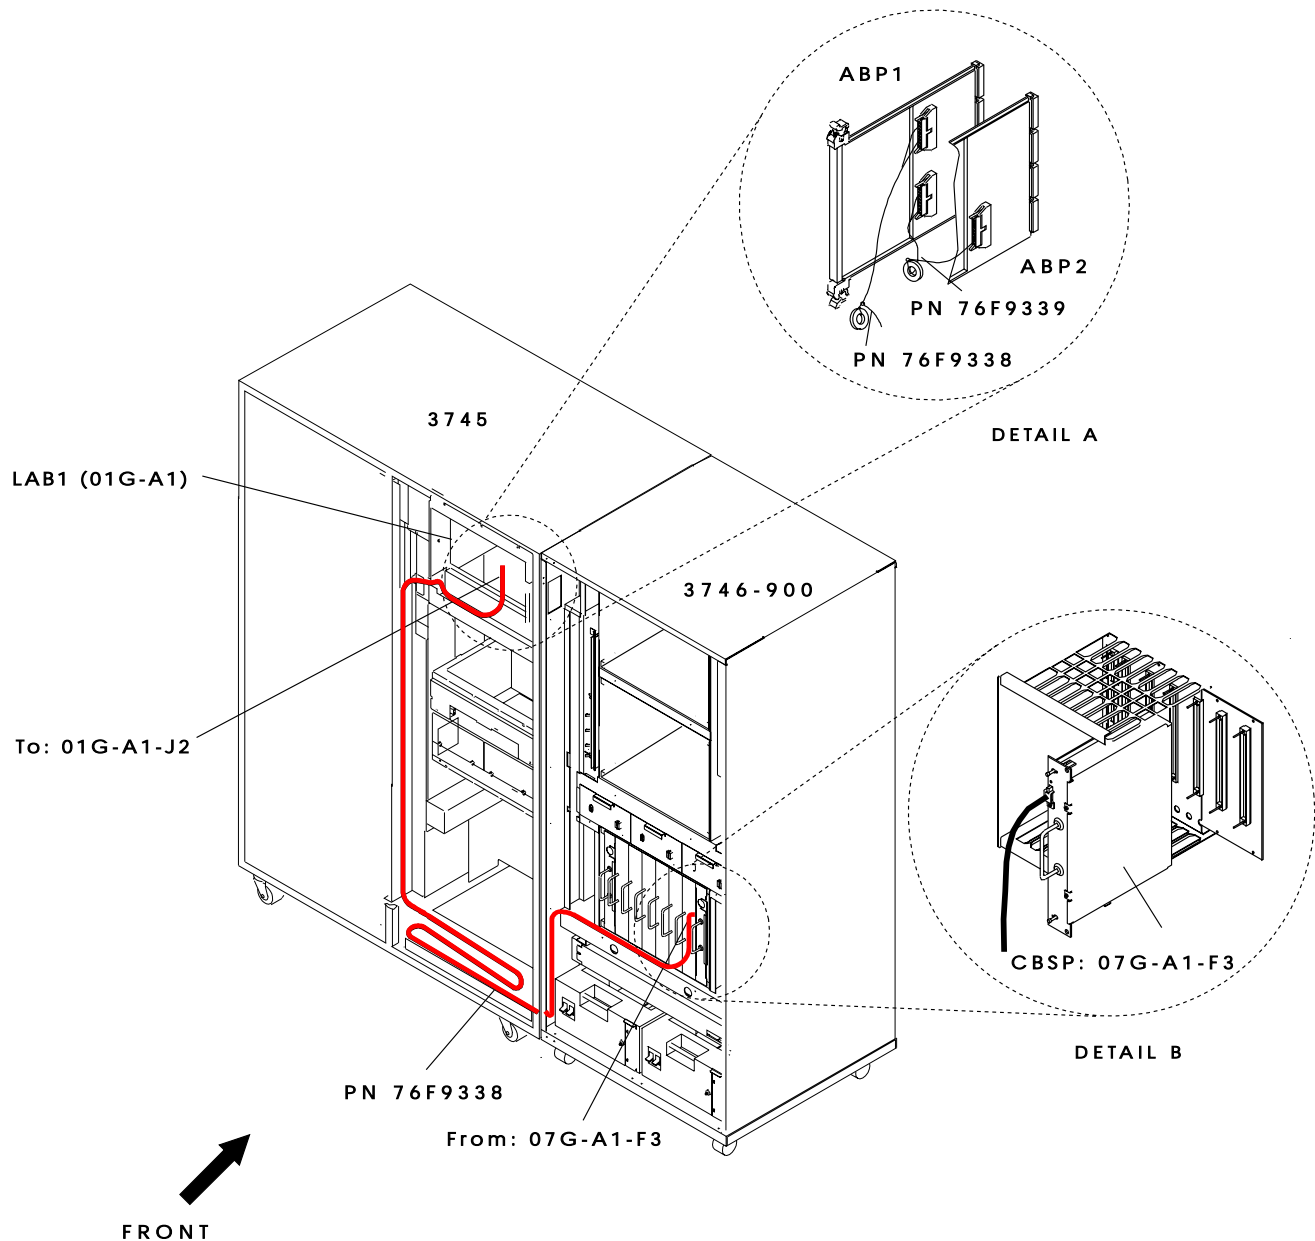

Figure 4-43. Example of Power Distribution To the ABP1 and ABP2 Cards Plugged on ADB1
Step 9. \_\_\_\_ Plug and route the +5 V power cables: (see Figure 4-43 on page 4-43 as example of cable routing on ADB1).